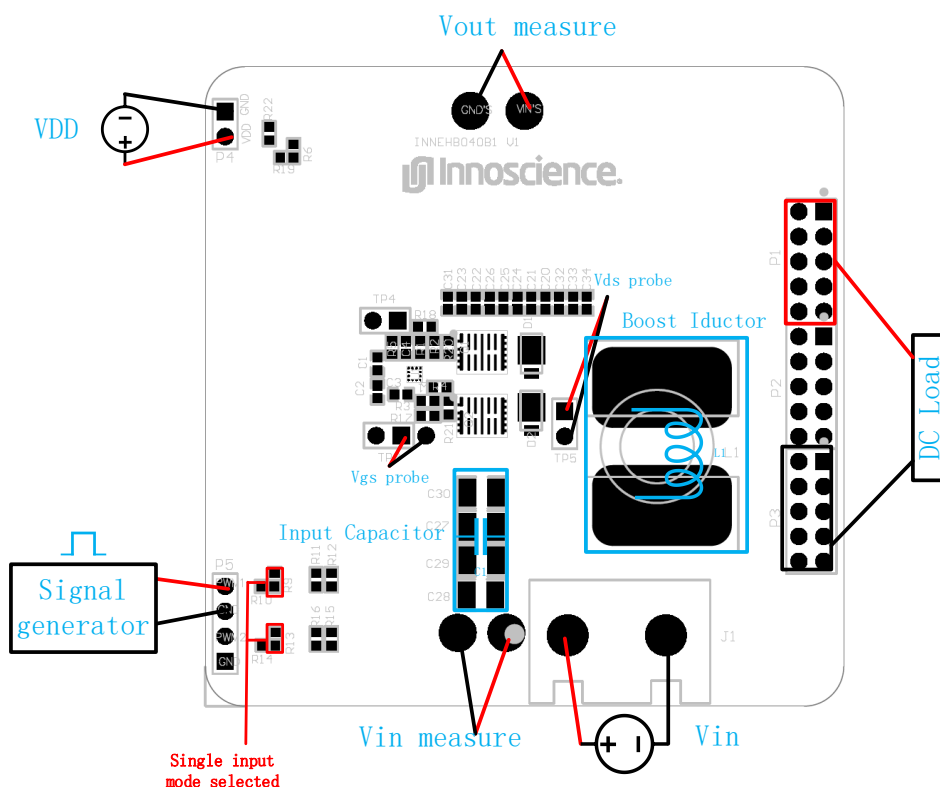

Figure 8 Single-PWM input Boost mode
2. Connect the DC voltage source to pin **J1**, as shown in Figure 8 (Pay attention to the polarity).